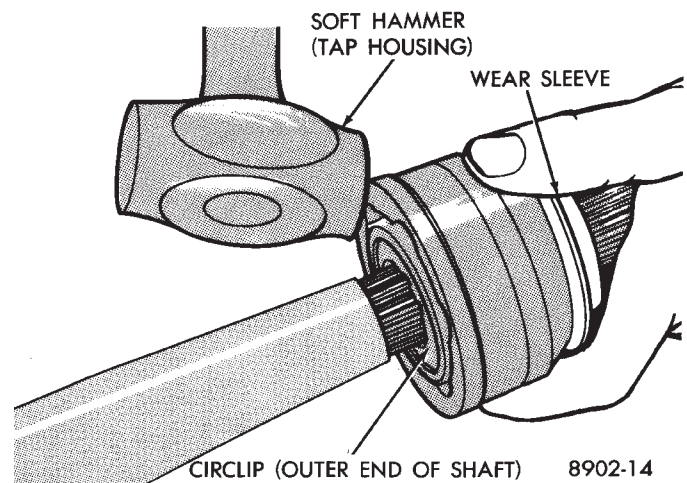

Fig. 42 Outer C/V Joint Removal from Interconnecting Shaft
(3) Wipe away grease to expose outer C/V joint and interconnecting shaft.
(4) Remove outer C/V joint from interconnecting shaft using the following procedure: Support interconnecting shaft in a vise **equipped with protective caps on jaws of vise to prevent damage to interconnecting shaft**. Then, using a **soft-faced hammer**, sharply hit the end of the C/V joint housing to dislodge housing from internal circlip on interconnecting shaft (Fig. 42). Then slide outer C/V joint off end of interconnecting shaft, joint may have to be tapped off shaft using a **soft-faced hammer**.